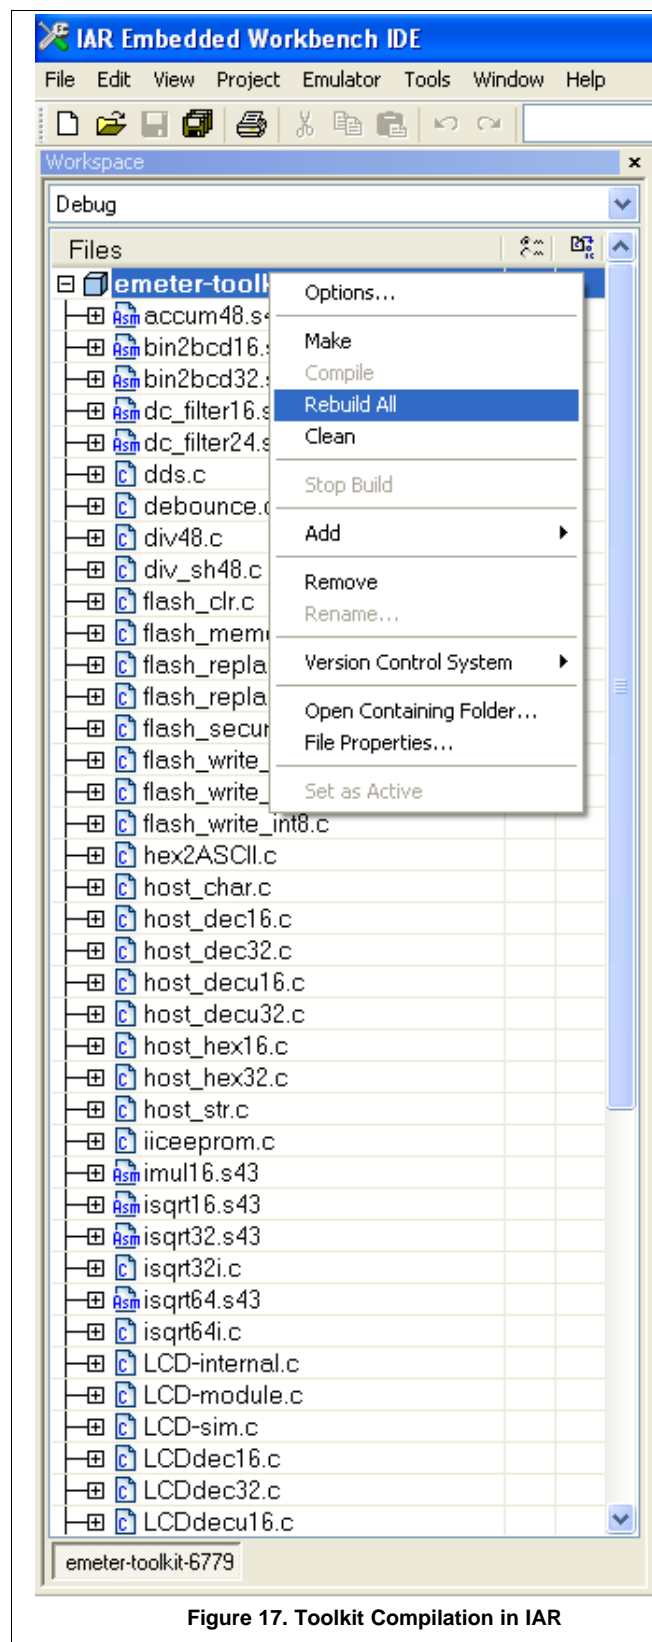

Figure 17. Toolkit Compilation in IAR
3. Click the Rebuild All option as shown in Figure 17.